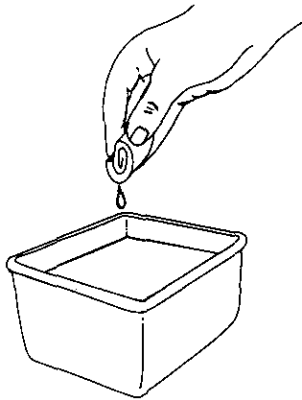

Fig. 19
4. Wash the filter in detergent and water (Fig. 19). Rinse the filter thoroughly and allow it to dry.